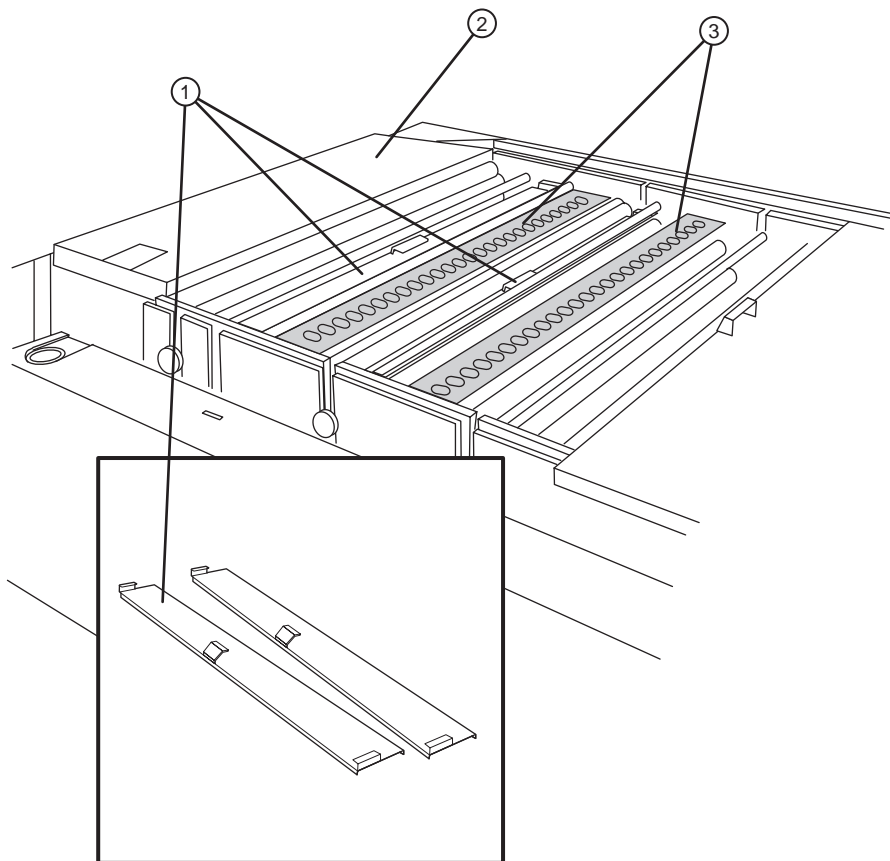

Figure 1-26 Anti-evaporation, front, and anti-oxidation cover locations.
50. Put in the two (2) anti-evaporation covers (stainless steel) inside the racks. Next place the front cover and the two (2) anti-oxidation covers. Refer to Figure 1-26.